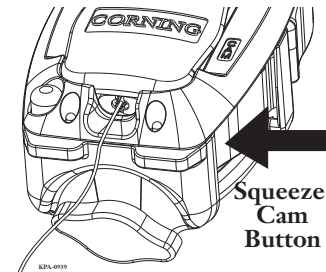

Figure 41 — Press Cam Button
Step 2: While maintaining enough inward pressure to create a slight bend in the fiber, squeeze the CAM button in until it locks (Figure 41).